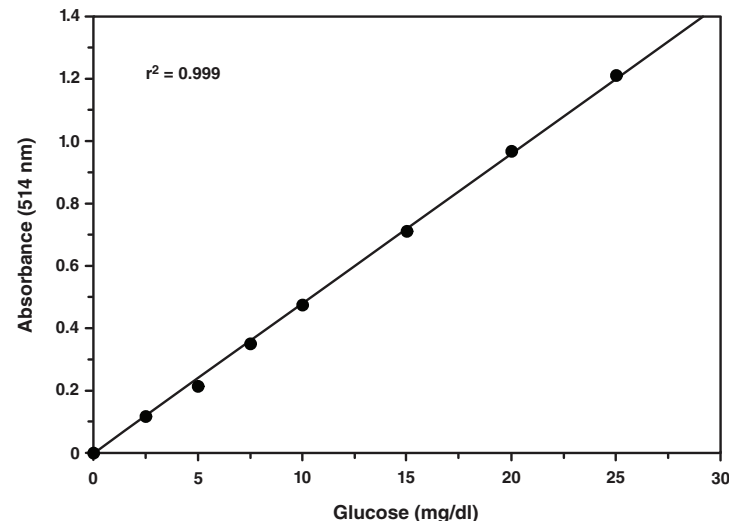

Figure 3. Glucose standard curve
4. Calculate the concentration of glucose for each sample from the standard curve. An example of the glucose standard curve is shown in Figure 3, see page 15.